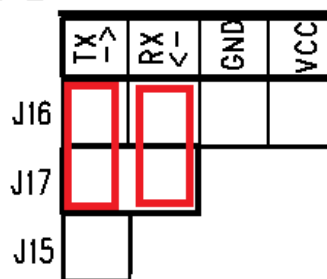

Figure 1-5 Connection of HCI UART Jumper
a) Connection of Jumper for HCI UART Test is shown in figure 1-5: